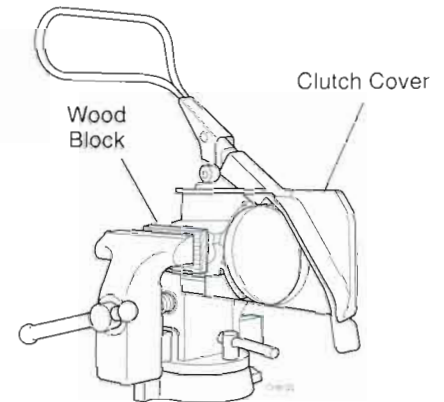

Figure 10.7 Securing the Cover During Disassembly
- For easier handling during service, clamp the cover between two blocks of wood in a vise (Figure 10.7).